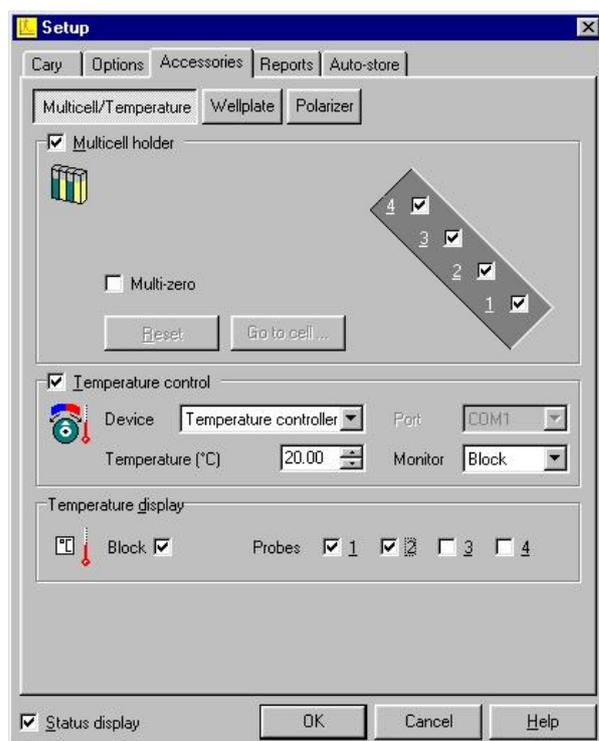

Figure 2. Accessories tab showing a typical setup of the multicell holder accessory
- 4 To display the temperature of other items in the 'Status Display' window, select these items from the 'Temperature display' option. Figure 2 (below) shows a typical setup of the multicell peltier accessory.